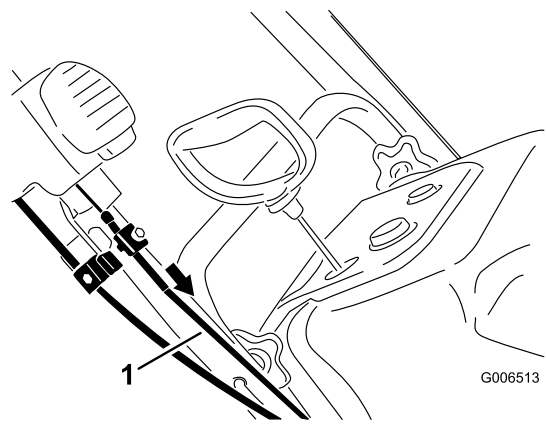

**Figure 31**
2. Position the Quick Shoot control between the two arrows located on the right hand side of the upper handle (Figure 31).